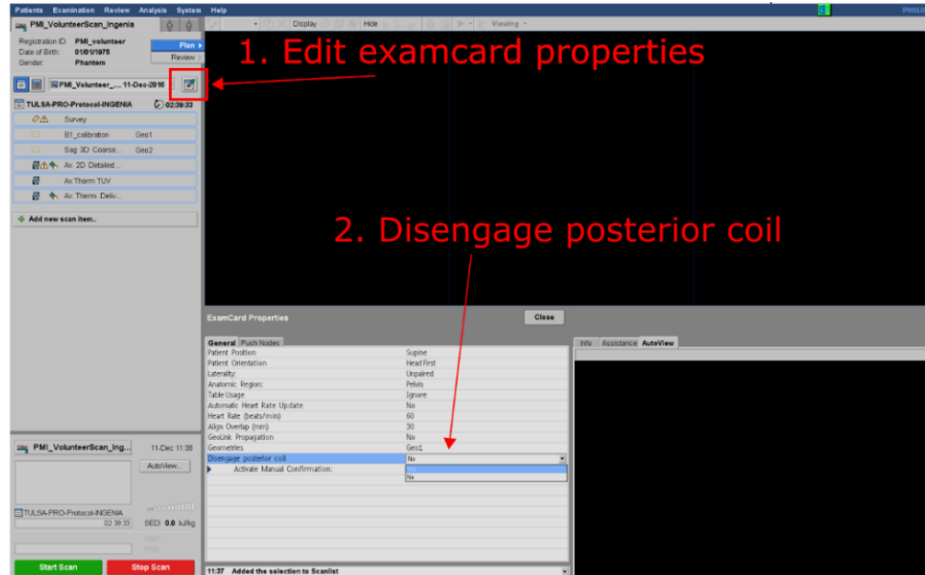

Figure 5: Setting 'Disengage posterior coil' to 'Yes'
3. If your TULSA-PRO® installation uses a TULSA-PRO® Coil Holder, it is very important to disengage the posterior coil, edit the ExamCard properties, and change the “Disengage posterior coil” from **No to Yes** (*Figure 5*).